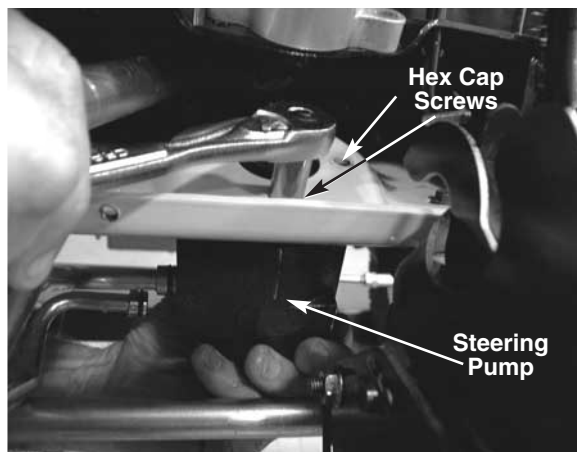

FIGURE 6.
12. Support the hydraulic steering pump from below. See figure 6.
13. Remove the four hex cap screws securing the hydraulic steering pump to the frame using a 10mm wrench. See figure 6.